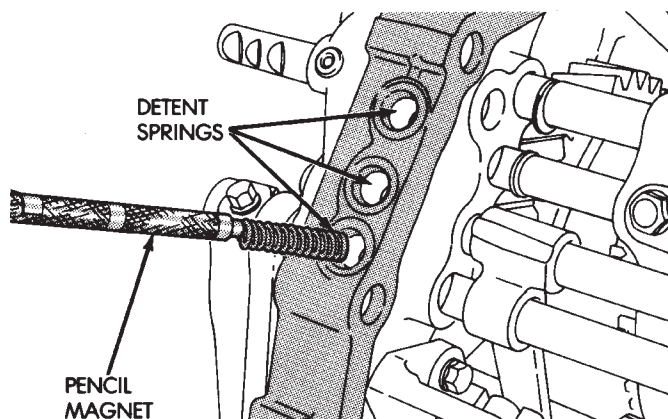

Fig. 104 Install Detent Balls And Springs
(38) Install detent balls and springs into openings in the intermediate plate (Fig. 104).
(39) Install new lock ball plugs into the intermediate plate. Tighten plugs to 19 N·m (14 ft. lbs.).
(40) Install bolts to hold reverse shift arm to the intermediate plate. Tighten bolts to 18 N·m (13 ft. lbs.).